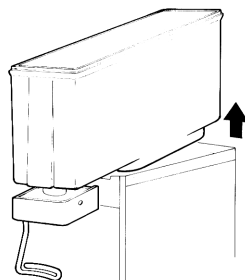

figure 2
- 4 - Remove the empty bowl by lifting first its rear side (opposite to faucet side) up and off bowl gasket (see figure 2).